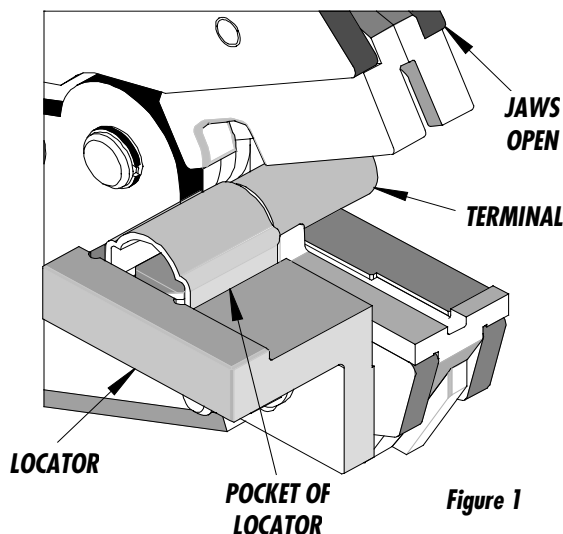

Figure 1
2. Position the terminal with the barrel facing up into the color-coded nest. Make sure the end of the terminal fits into the locator pocket securely and the front edge of the barrel is flush against the front edge of the locator, (See Figure 1).